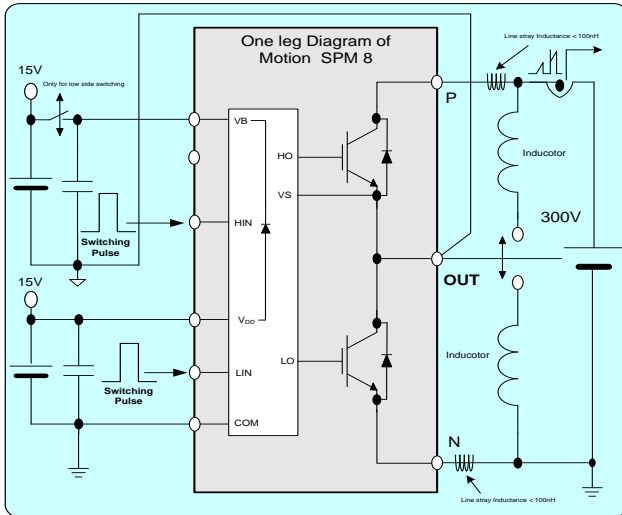
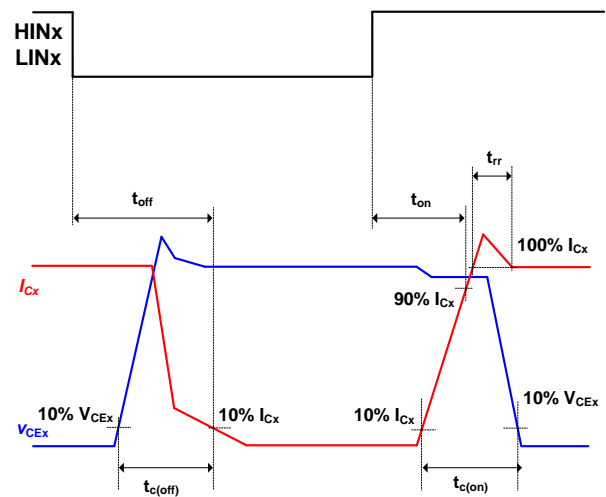

Figure 6. Switching Evaluation Circuit
Figure 7. Switching Time Definition
5. t_{ON} and t_{OFF} include the propagation delay of the internal drive IC. $t_{C(ON)}$ and $t_{C(OFF)}$ are the switching times of the IGBT itself under the given gate driving condition internally. For the detailed information, see Figure 6 and Figure 7.